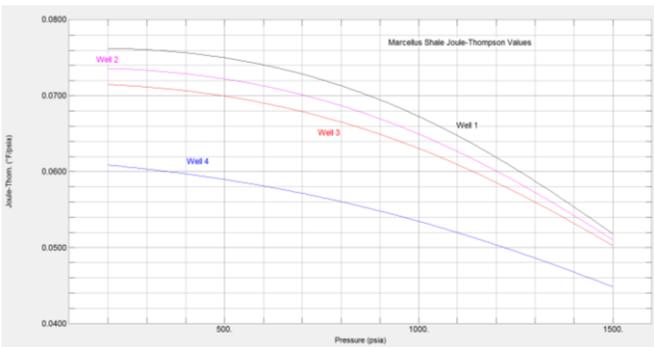

Figure 7
As discussed earlier when gases are close to their HCDP there can be numerous additional uncertainties added if heavy components start to drop out. The dropout can have numerous causes, gradual reduction in the products temperature, pressure reductions caused by piping components or regulators. This may sound counter intuitive as reductions in pressure should raise the HCDP temperature, but the Joule-Thompson (JT) effect states as a rule of thumb that for every 100 PSI decrease there will be a  $\approx 7^\circ$  F drop, this will change based on composition, see Figure 7